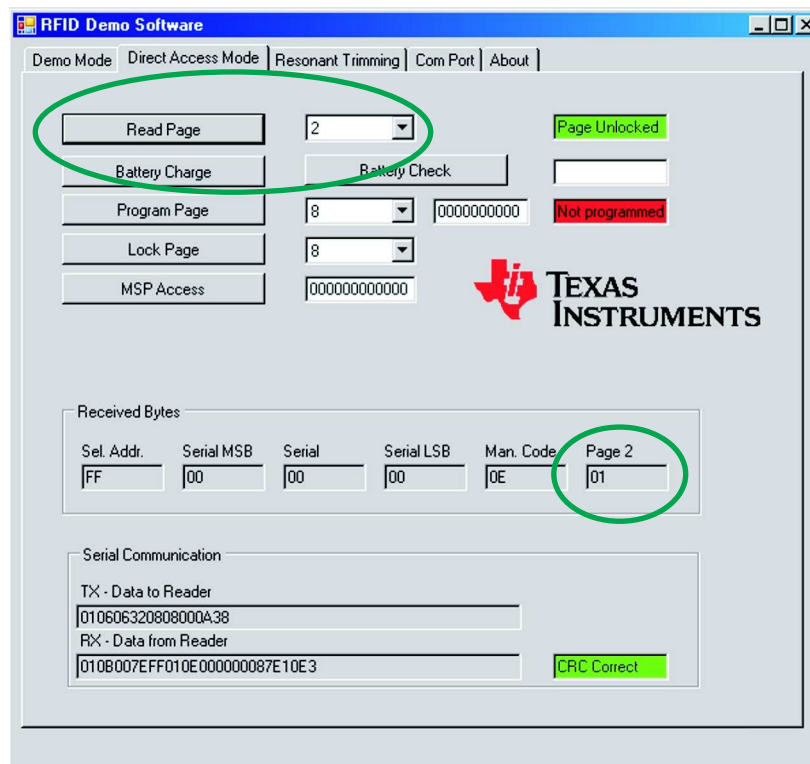

Figure 29. Demo 6 - Read Page 2
1. In the Direct Access Mode tab, read page 2 (see Figure 29).